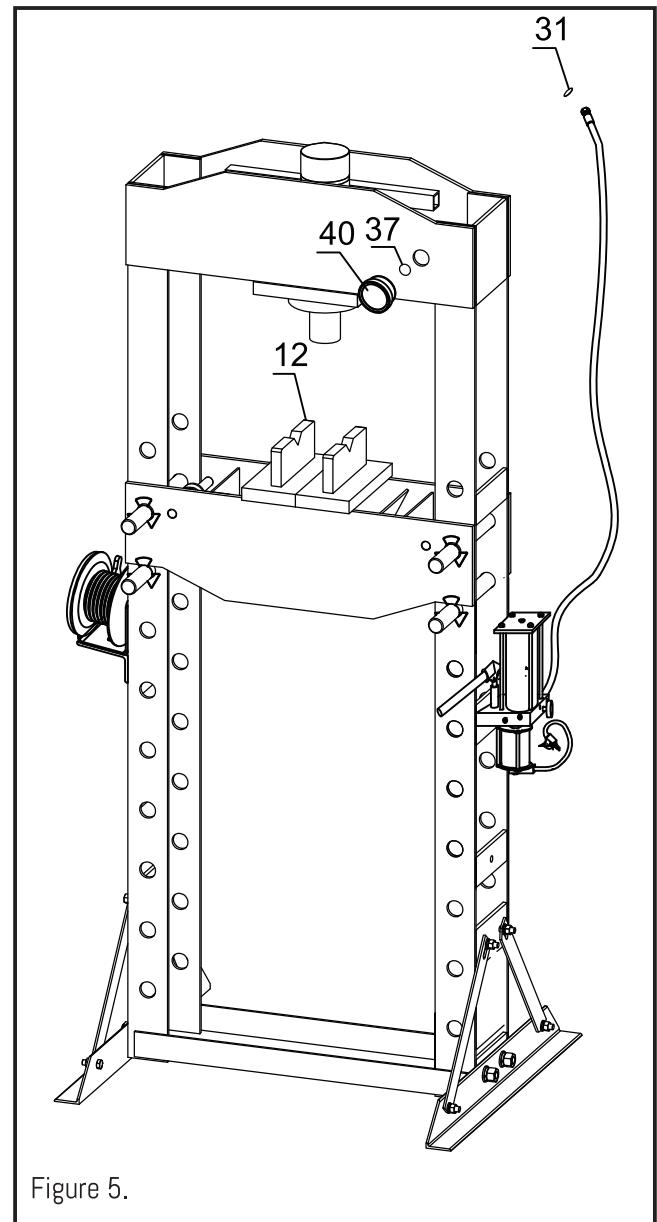

Figure 5.
6. Attach the Hose to the Tee Coupler using O-Ring (31). Then attach the Gauge (40) using O-Ring (37). Place the Arbor Plates (12) on the Press Table. See Figure 5.